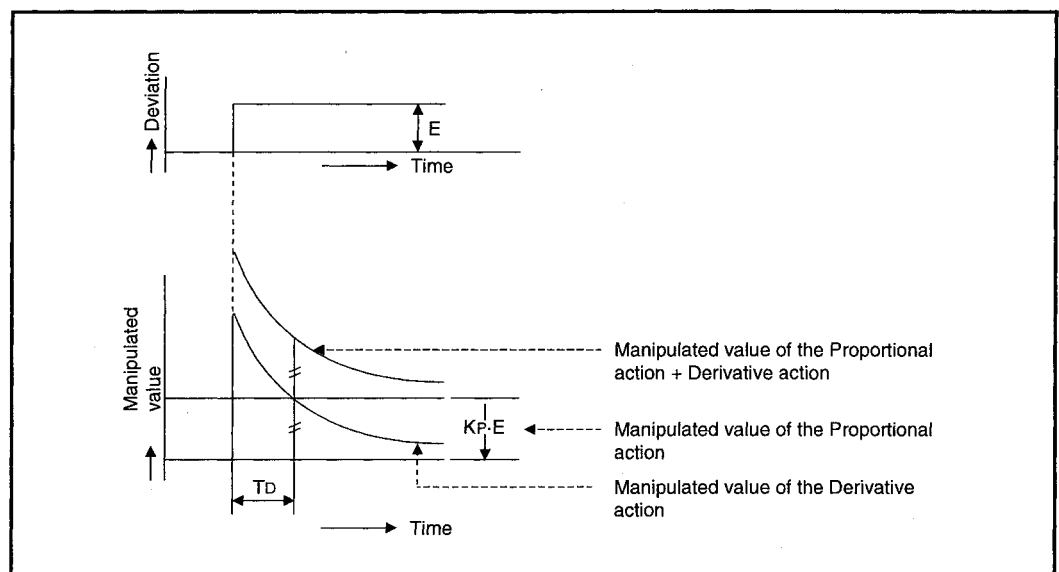

Fig. 1.9 Derivative action for step response
- (2) In the derivative action, the time from the deviation occurrence until the manipulated value of the derivative action becomes that of the proportional action is called the derivative time, and is indicated by  $T_D$ .
- (3) The derivative action for the step response when the deviation is constant is shown in Figure 1.9.
- (4) The derivative action is used as a PD action in combination with the proportional action, or PID action in combination with the proportional and integral actions.